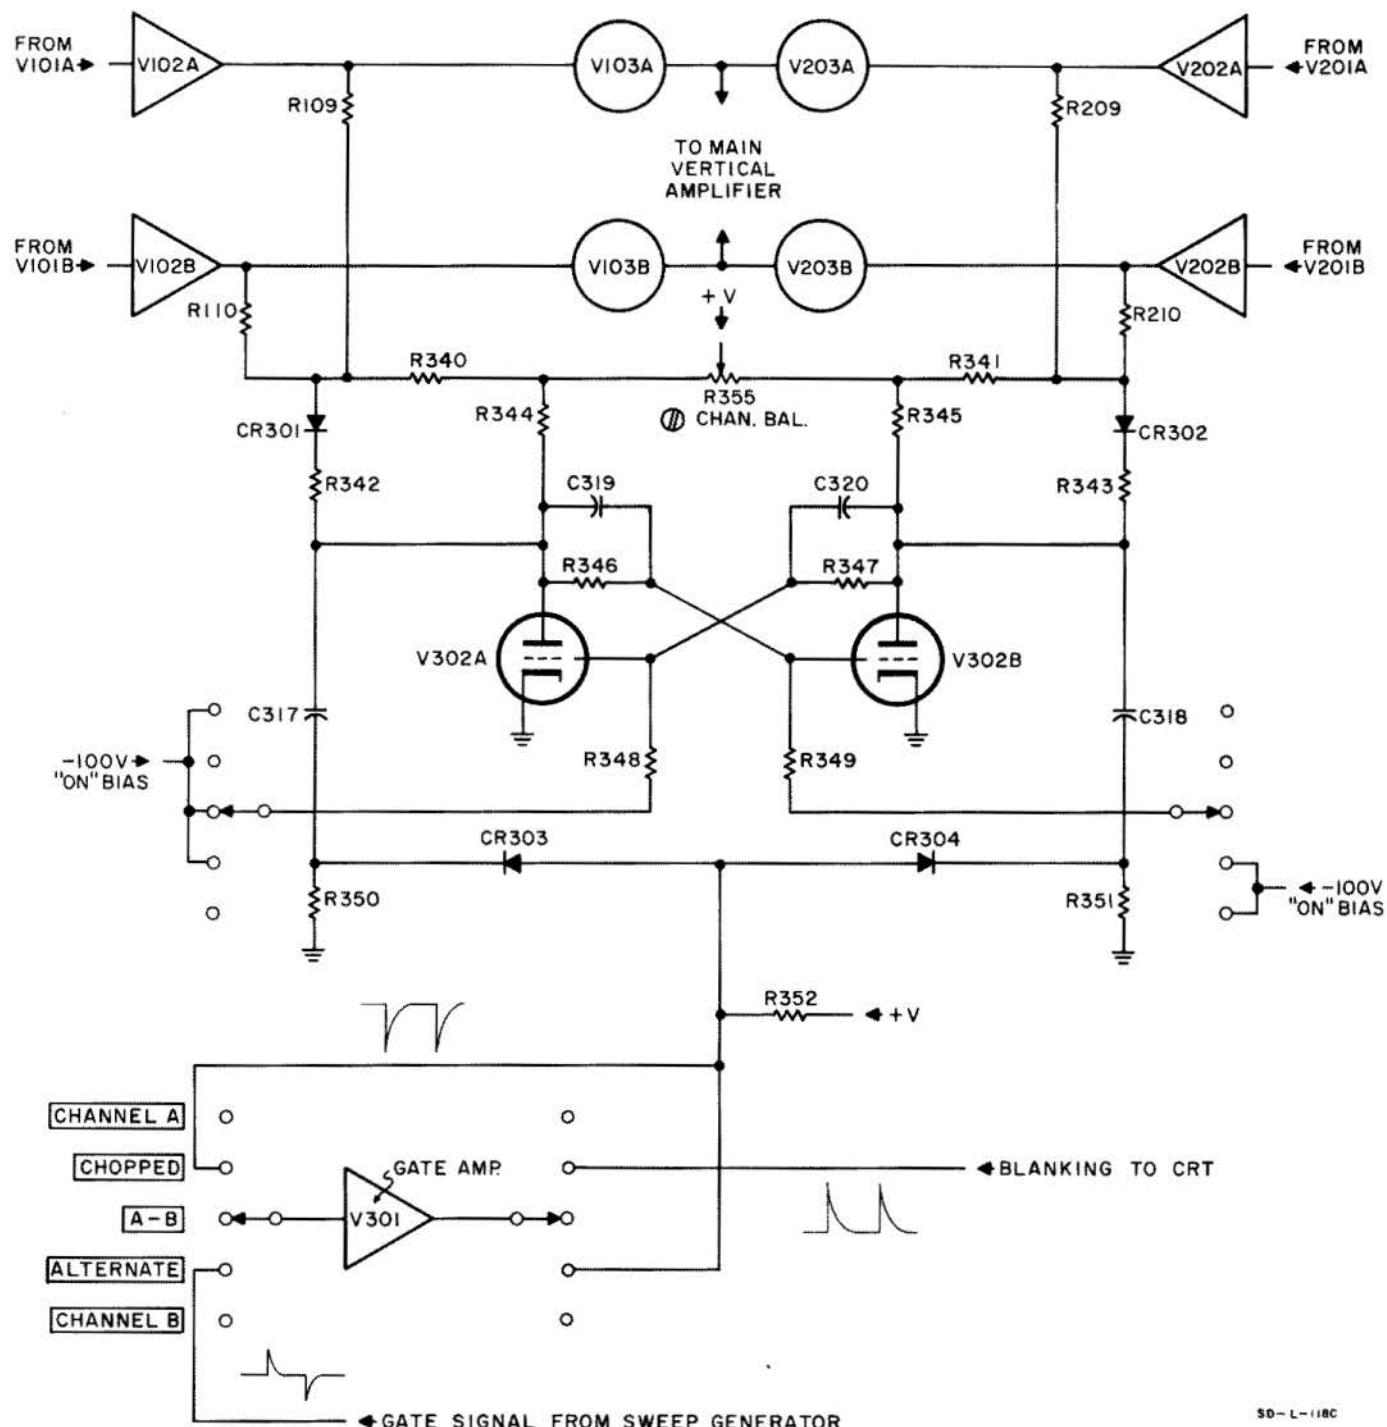

Figure 4-5. Electronic Switch
**4-14.** The output of each channel is controlled by switching multivibrator V302, shown in figure 4-5. When V302A conducts, its plate voltage is approximately +45 volts, forward-biasing diode CR301. The conduction of CR301 pulls the plates of V102 (and therefore the grids of V103) to approximately +60 volts, cutting off V103. With V103 in a cutoff